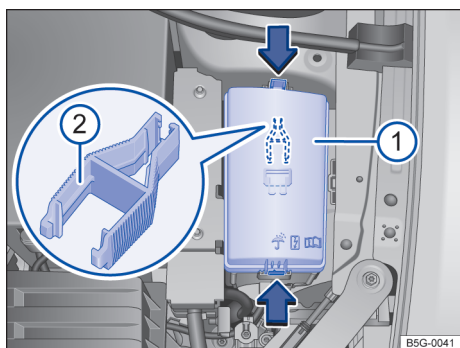

Fig. 157 In the engine compartment: Fuse box cover **①** with tweezers **②**.
- *To remove*: Press the release tabs in the direction of the arrows → **fig. 157** to unlock the fuse box cover **①**.
In some vehicles, there are plastic tweezers for removing fuses on the inside of the fuse box cover → **fig. 157** **②**.